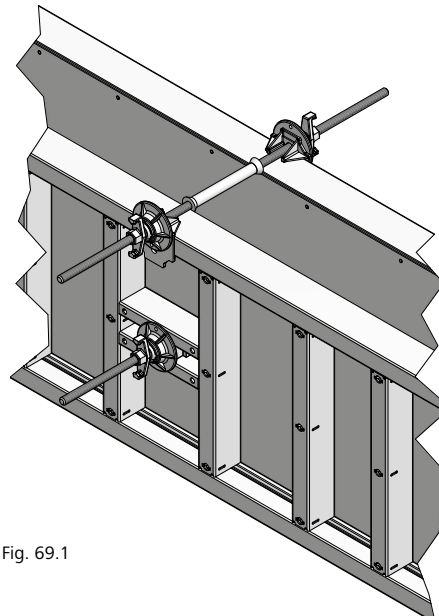
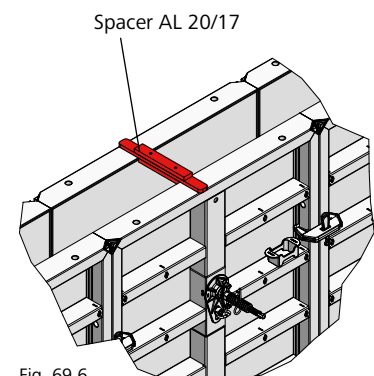

Fig. 69.1
Fig. 69.6
The central tie hole allows the Mammut XT panel to be used horizontally without problem (Figures 69.1 and 69.3). To provide stability and to ensure that the wall thickness is correct in the vicinity of the top tie hole, a spacer (Fig. 69.6) or a wooden blocking may be required. The spacer is available for wall thicknesses 20, 24, 25 and 30 cm.
- Two articulated flange nuts (Figures 69.1 to 69.4) We also recommend the use of a plastic tube. It serves as a spacer and protects the tie connection against contamination.